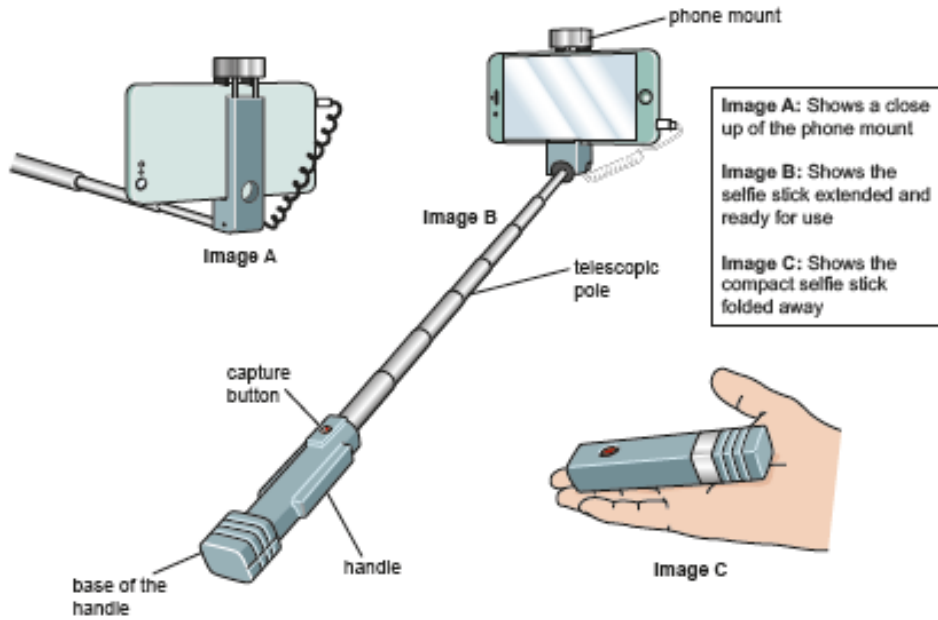

Fig. 1
- 1 Fig. 1 shows three images of a selfie stick. A selfie stick is a hand held product used to take photographs or video by holding a smartphone, beyond the normal range of the arm.
- (a) Analyse Fig. 1 to identify two design features of the selfie stick that ensure it functions as intended. Justify each of your responses.